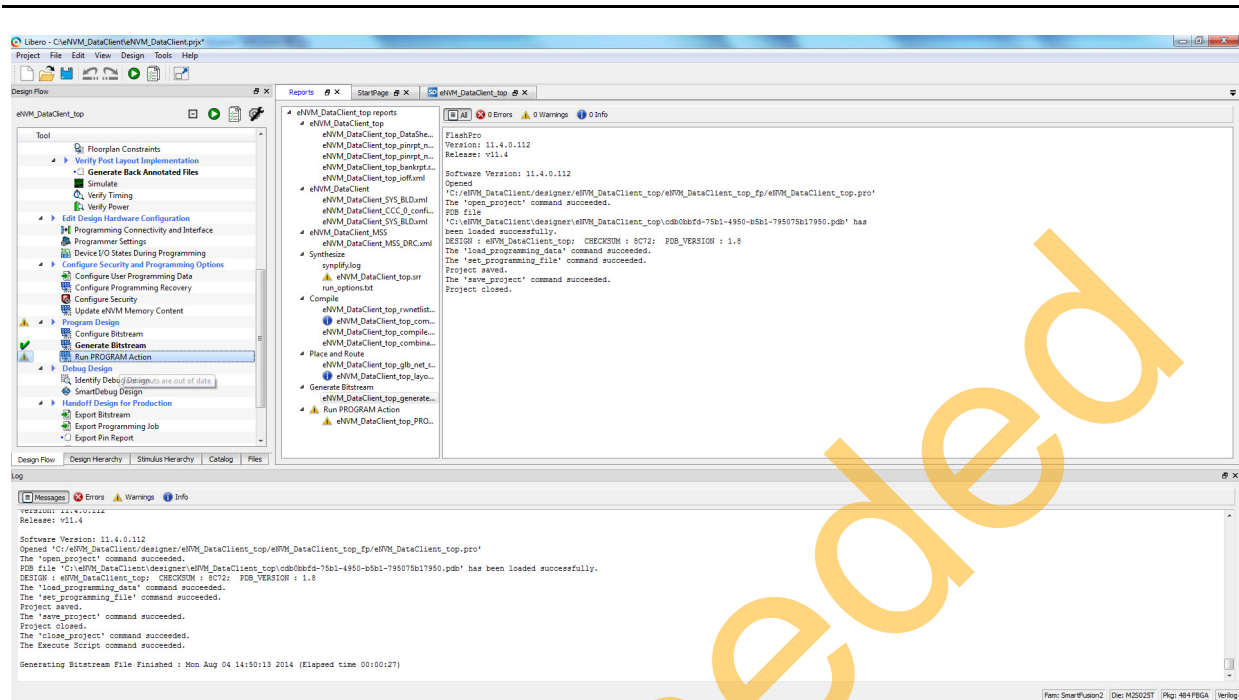
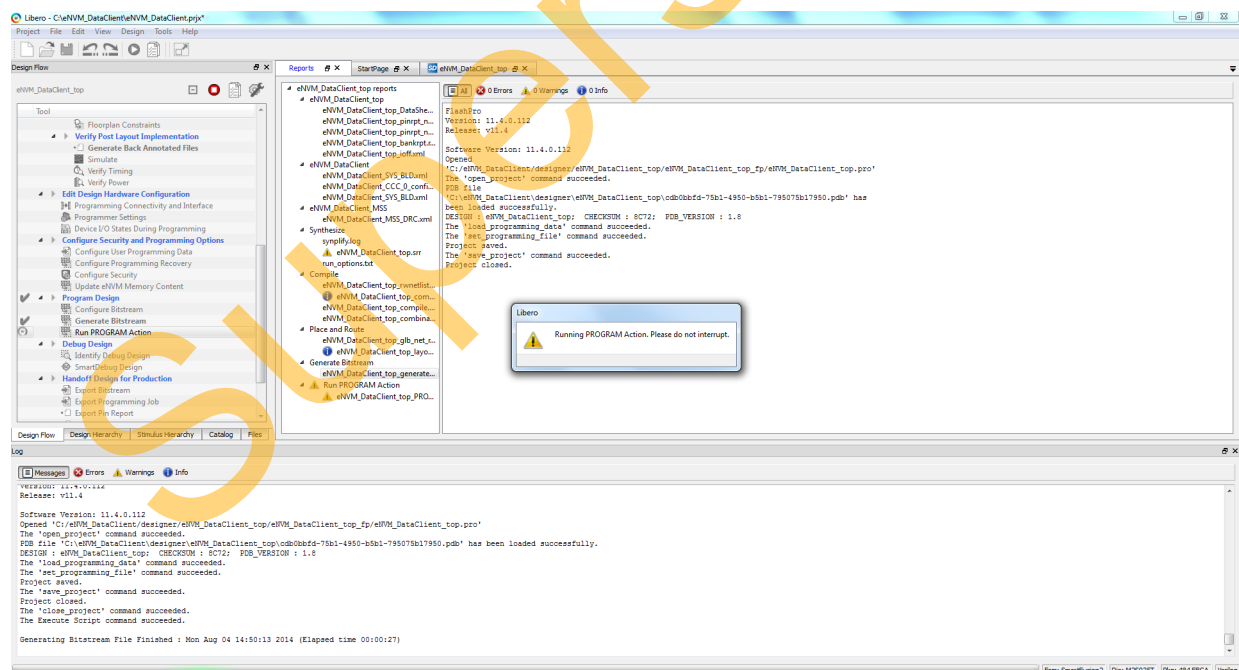

Figure 21 • Selecting Run PROGRAM Action
Figure 22 • Programming SmartFusion2 SoC Evaluation Kit
12. Click **Run PROGRAM** Action to program the SmartFusion2 SoC Evaluation Kit (see Figure 21 and Figure 22).